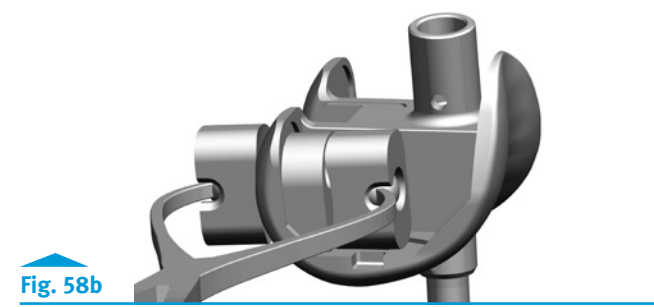

Fig. 58b
- For cement fixation of the augments, apply cement between the augment and femoral component, as well as to the rails of the femoral component (Fig. 58b).